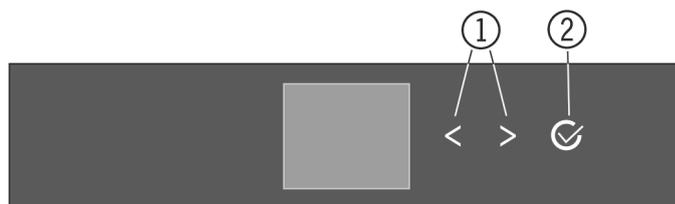
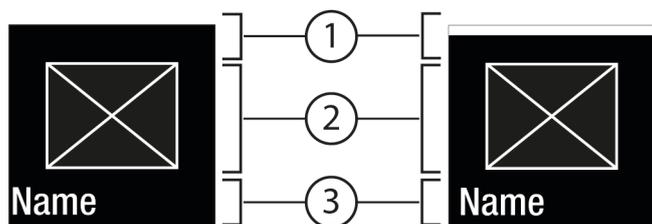
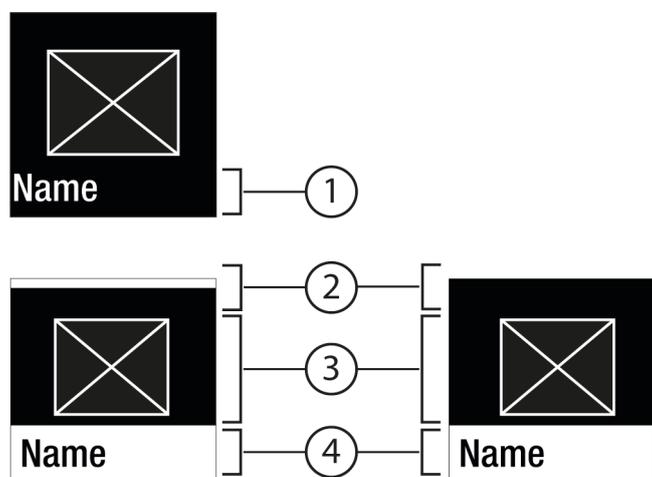

Fig. 5
Fig. 6
Fig. 7
(1) Navigation arrow left/right
(2) Confirm
Navigation arrow left/right Fig. 5 (1):
Confirm Fig. 5 (2):
- Press the left/right Fig. 5 (1) arrow to navigate.
- Press Confirm Fig. 5 (2) to open the submenu Fig. 7 (4).
- Set a new value: Press Confirm Fig. 5 (2) to select an active value Fig. 6 (1).
- Back to the menu: Press Confirm Fig. 5 (2) to select the active value Fig. 6 (2).
- ▶ Press the navigation arrows Fig. 5 (1) until the appears.
- ▶ Press Confirm Fig. 5 (2).
- ▶ Tap the navigation arrows Fig. 5 (1) repeatedly until the function is displayed.
- ▶ Select the setting value with the navigation arrows Fig. 5 (1).
- ▷ Status: On Fig. 6 (1) appears briefly in the submenu Fig. 7 (4).
- ▶ Tap the navigation arrows *Fig. 5 (1)* repeatedly until the settings appear.
- ▶ Press Confirm *Fig. 5 (2)*.
- ▶ Tap the navigation arrows *Fig. 5 (1)* repeatedly until the desired setting is displayed.
- ▶ To Confirm *Fig. 5 (2)*, press for 3 seconds.